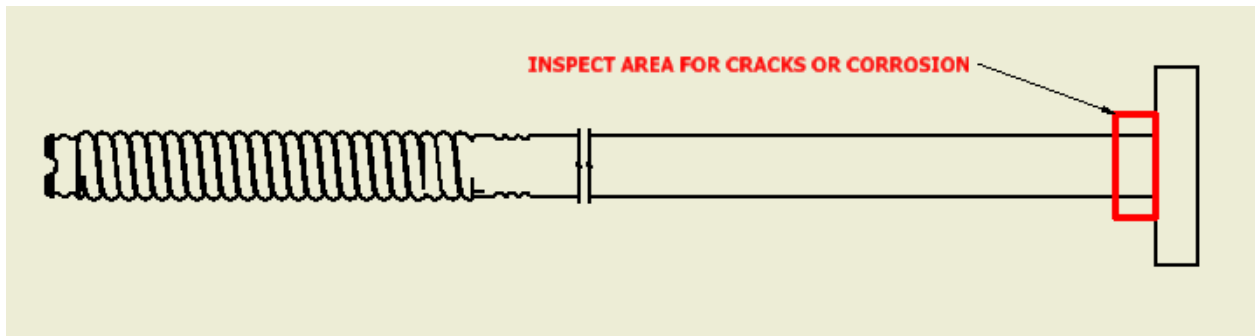

FIGURE 1: INSPECTION AREA
3. Inspect a two inch area of the tube beneath the flange for stress cracks and chemical attack (area shown in FIGURE 1). Chemical attack will present itself as excessive whitening.